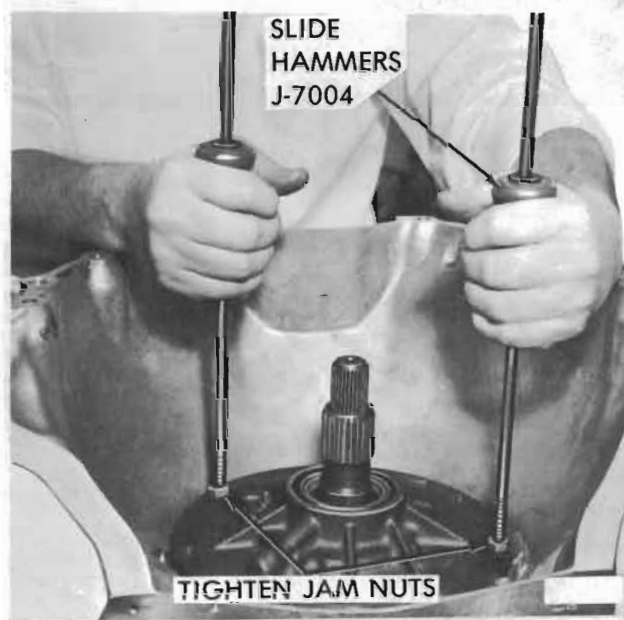

Figure 75-91
2. Install two (2) threaded slide hammers J-7004 into threaded holes in pump body. Tighten jam nuts and remove pump assembly from case. See Figure 75-91.